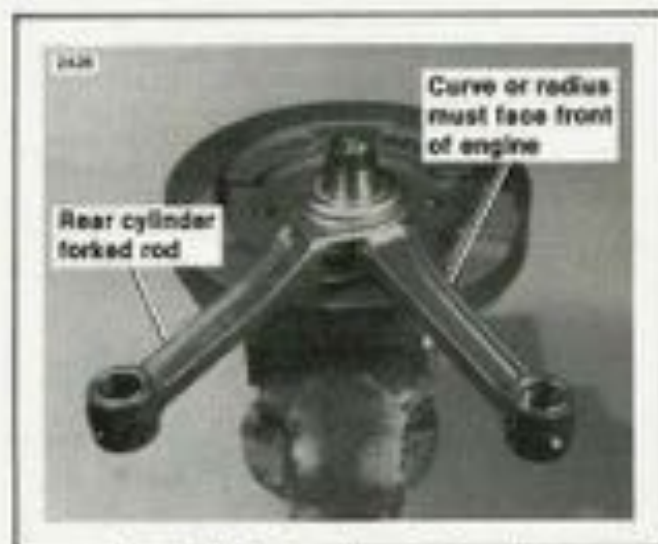

Figure 3-47. Connecting Rod Location
7. Install the rods and bearings on the crank pin using a thin film of petroleum jelly to retain the rollers. Never use a stiff, high temperature grease on roller bearings. Make sure the forked rod faces the rear cylinder and that the offset reinforcement on the front rod faces forward. See Figure 3-47. If the front rod is turned 180° it will interfere with the rear rod.